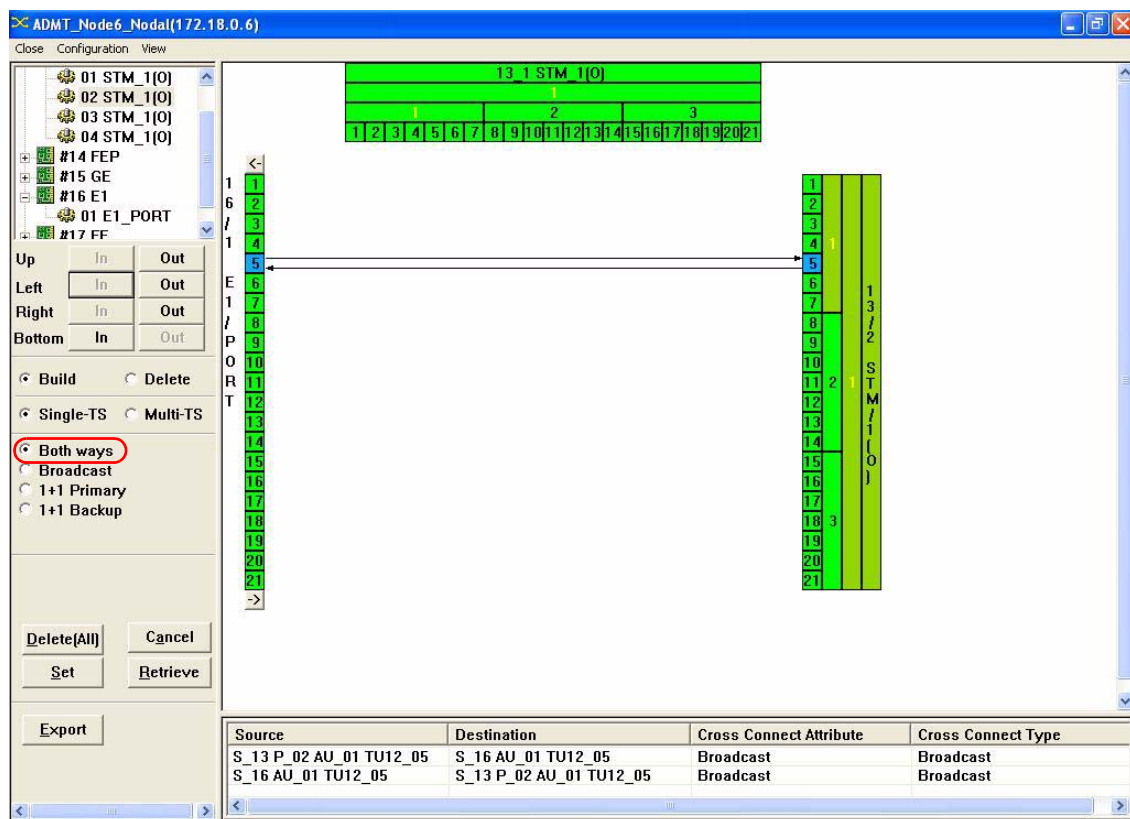

Fig. 4-9-9 Cross Connect Configuration Dialog Box
- 3 Select **Cross Connect Configuration** from the **Configuration** menu. The **Cross Connect Configuration** dialog box shown in **Fig. 4-9-9** appears: